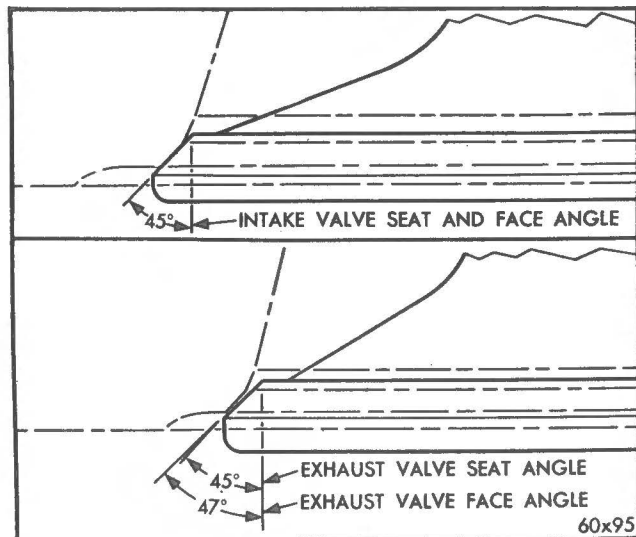

Fig. 13 - Valve face and seat angles.
(1) The intake and exhaust valve seats and the intake valve face have a 45 degree angle. The exhaust valve face has a 47 degree angle. The valve face and seat angles are shown in Fig. 13.